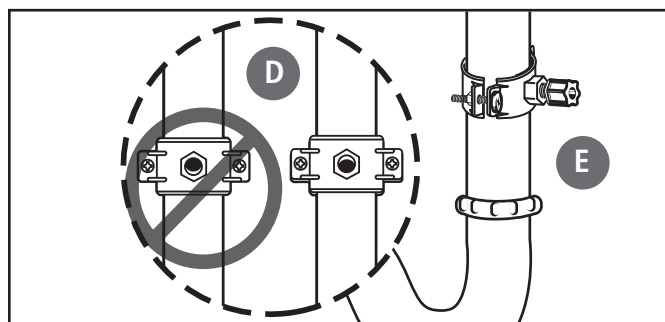

Figure 8
- Make sure the black rubber gasket is adhered to the inside of the drain clamp and place the drain clamp assembly over the drilled hole. Look through the hole and position the clamp so that the center of the clamp hole is slightly higher (about 1/16") than the center of the drilled hole. (See Figure 8). Tighten the clamp securely.